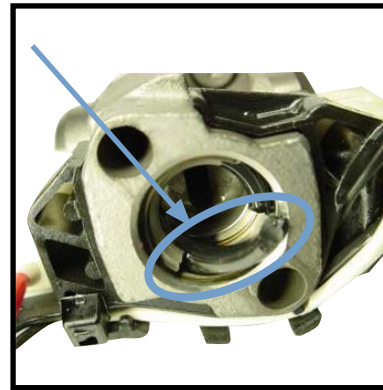
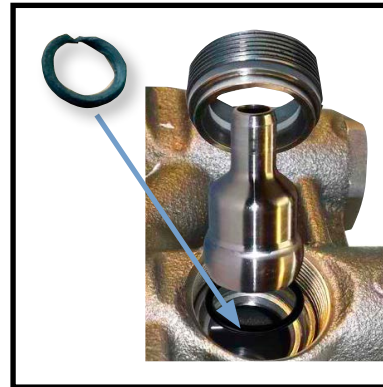
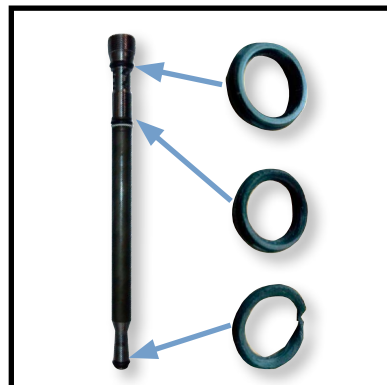

Figure 1
Figure 2
Figure 4
- Air leaks heard from underneath valve cover could be present at injector oil inlet seals (Figure 1), oil rail outlet fitting seals (Figure 2), oil rail front port plug seals (Figure 3), or stand pipe seals (Figure 4).